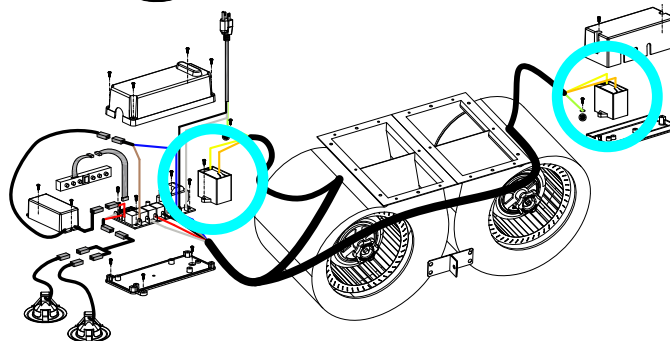

Figure 2
**NOTE:** Capacitors provide power to the range hood motor. If you have a unit with dual motors, there will be two capacitors (circled in blue). *Figure 2*